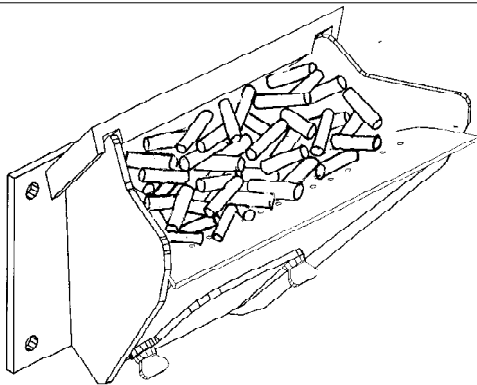

Fig. 57
8. Fill burnpot with pellets as shown. See Fig. 57. Only fill level with the front edge. (----- DO NOT OVERFILL -----)